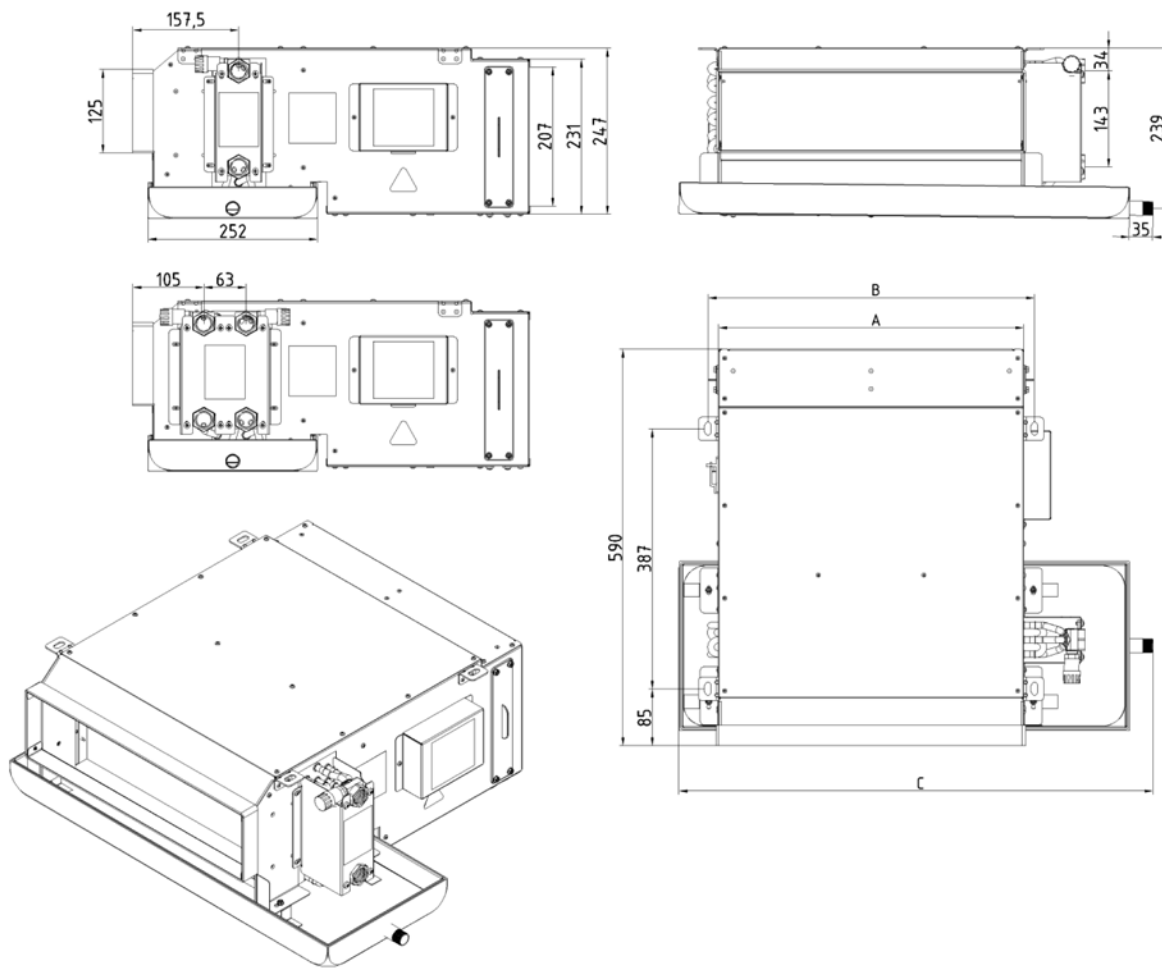
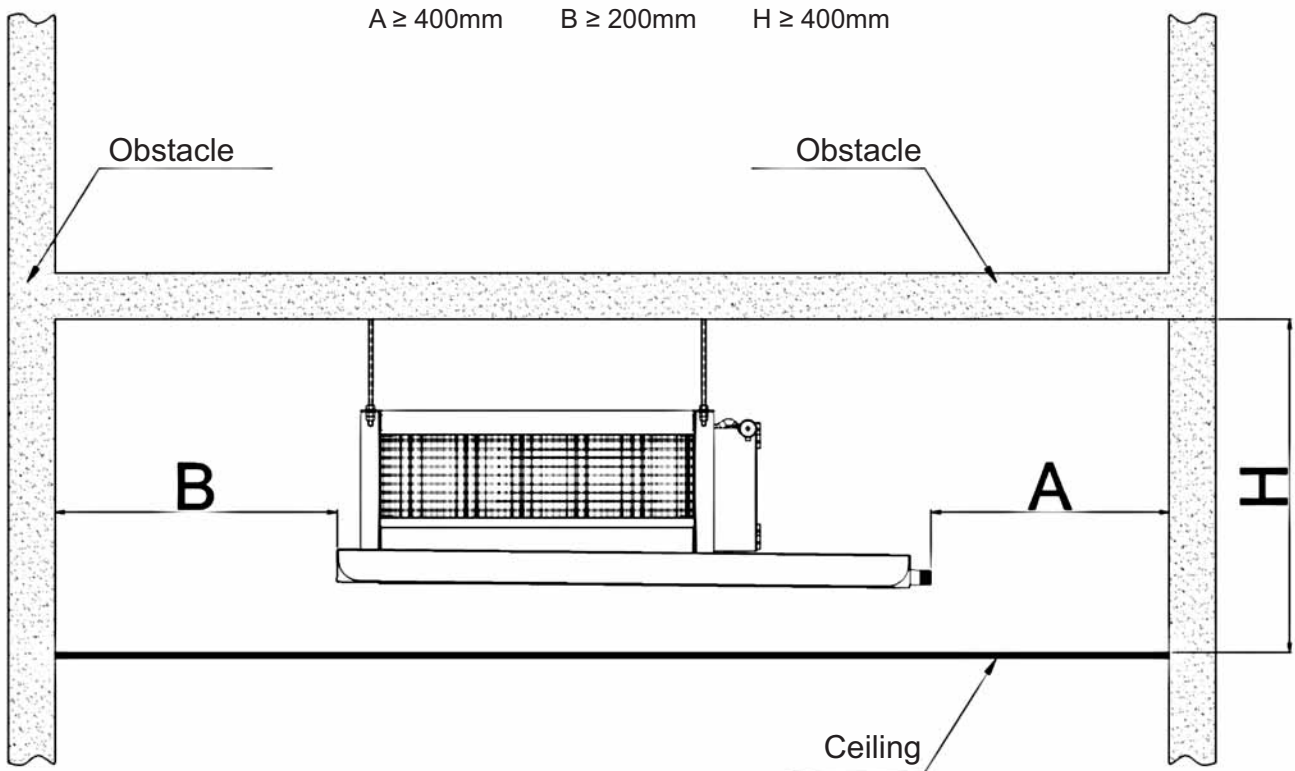
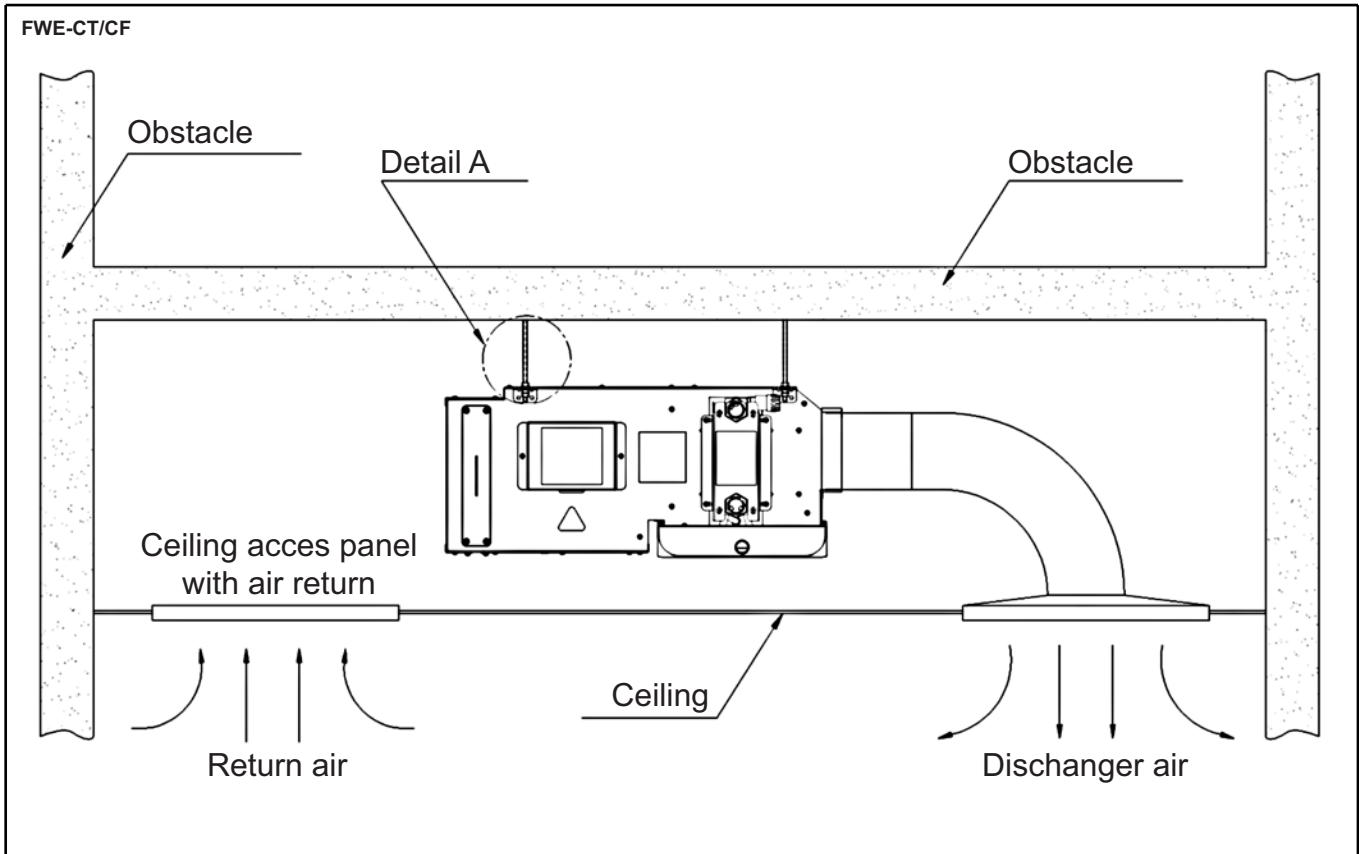
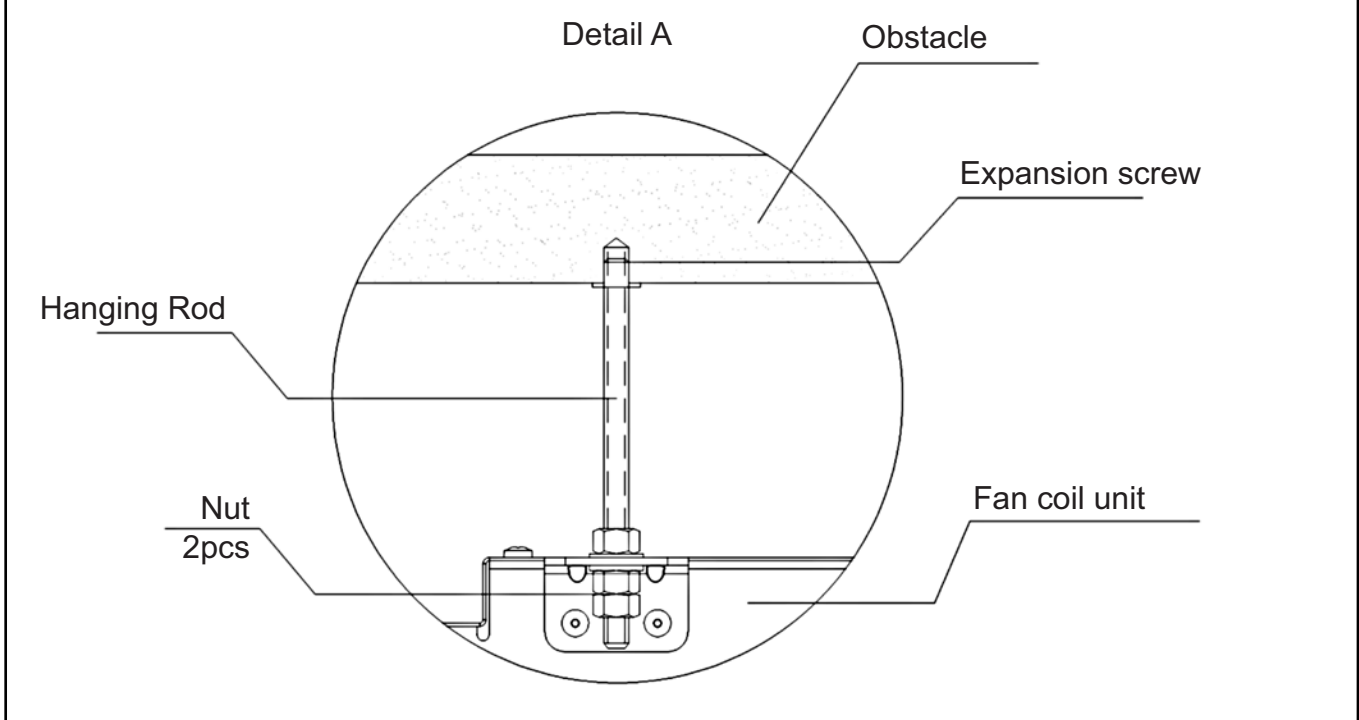

Figure 1
Figure 2
Figure 3
Figure 4
- Have adequate space for installation and maintenance. Please refer to the unit size (figure 1) and the correction diagram. (Figure 2: Gaps around the unit show the required minimum space.)
- There are holes on top of the unit for hanging. Please refer to figure 1, figure 3, figure 4.